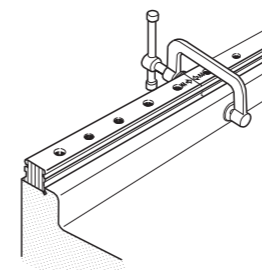

Fig. 37 Fixing of butt-jointing track rails
- ① Joint the track rails end-to-end in accordance with the match marks, and temporarily fix the rails onto the bed. The butt-jointing interchangeable track rail of interchangeable specification does not require matching butt-jointing rail ends, because the rail is prepared for free combination.
- ② Fit the reference mounting surfaces of the track rails onto the reference mounting surface of the bed, then fix all track rails one by one. While performing this procedure, tightly press the reference mounting surface of each track rail with a small vise, etc. against the reference mounting surface of the bed at the butt-jointing position so that the track rails at the butt-jointing position are connected without a step. (See Fig. 37.)